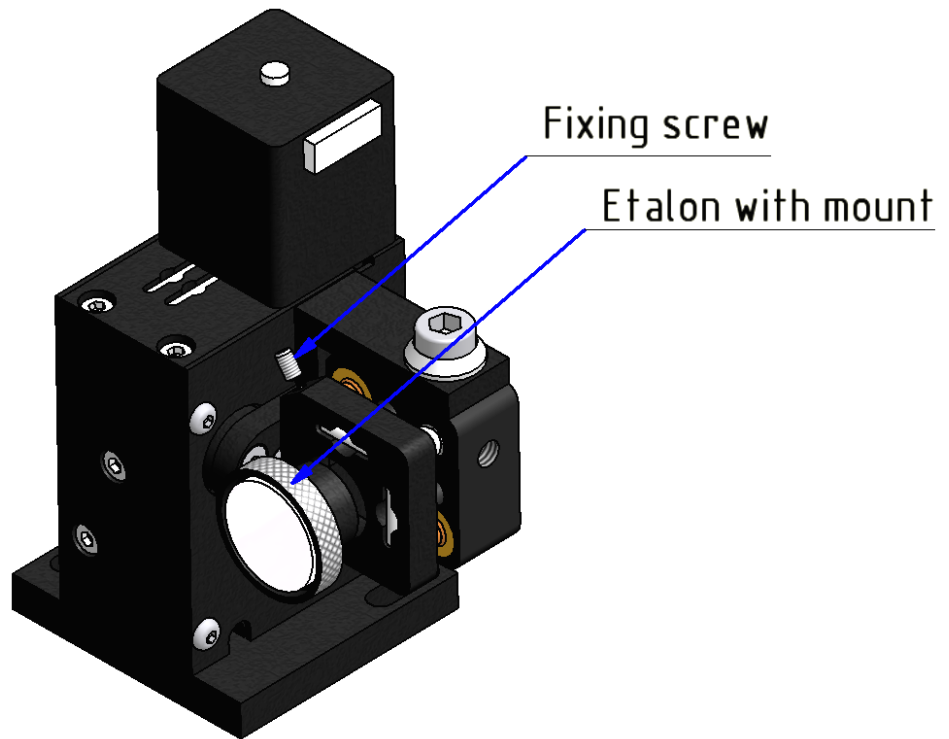

Fig. 12 Etalon mount
8. *If your laser is equipped with an optional Etalons then it is necessary to take it out of the holder (**Fig. 12**). Loosen the fixing screws and carefully remove the etalons with mounts. A pair of pincers may be used for convenience. Please refer to **Fig. 12**.*
59. Insert the first etalon back into the holder as shown in *Fig. 12*